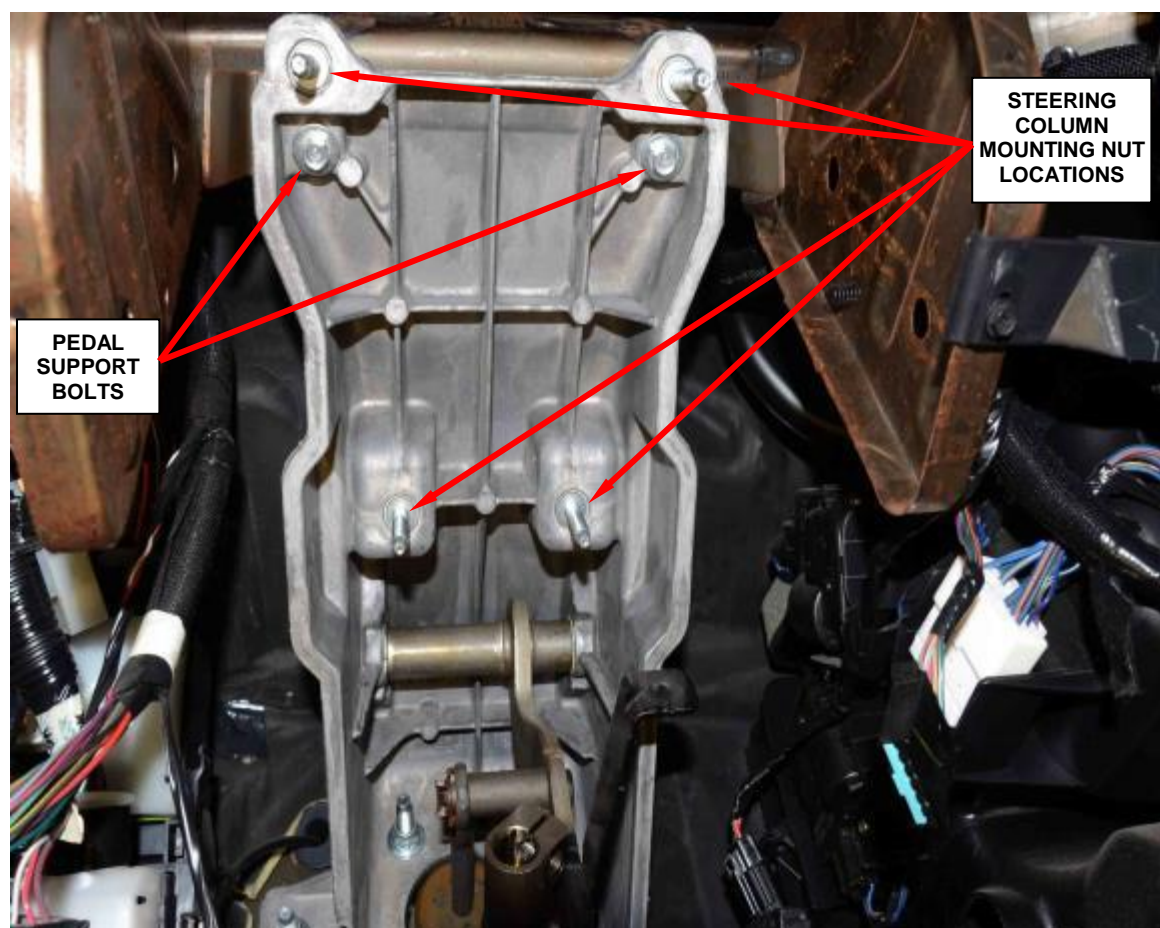

Figure 138 – Pedal Support Bolts
18. Remove the bolts from the pedal support (Figure 138).